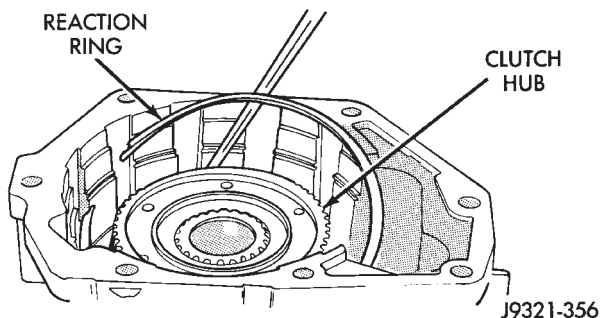

Fig. 243 Overdrive Clutch Reaction Ring Installation
(1) Install overdrive clutch reaction ring first. Reaction ring is flat with notched ends (Fig. 243).